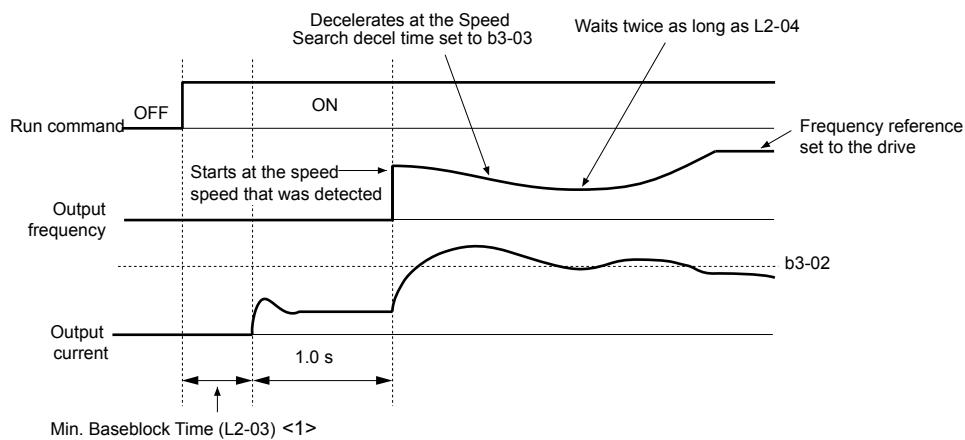

**Figure 5.12 Speed Search after Baseblock**
**Note:** If the Run command is quickly switched off and then back on again when the drive is set to "Coast to stop" as the stopping method, Speed Search will operate as shown in Figure 5.12.